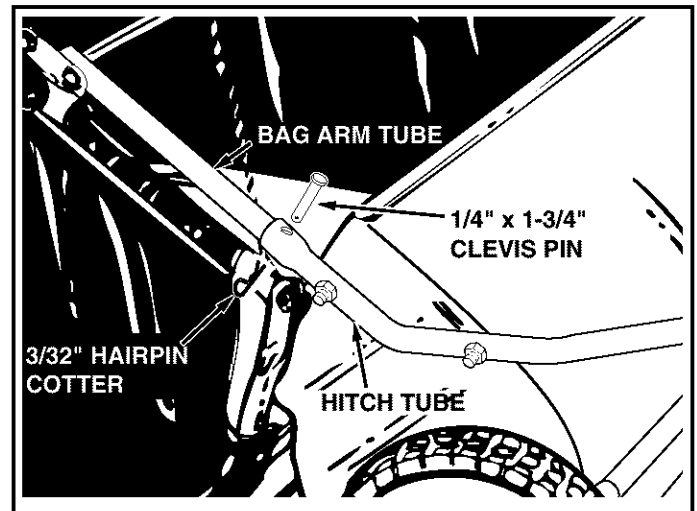

FIGURE 20
- To assemble the hopper bag to the sweeper, slide the ends of the bag arm tubes into the ends of the hitch tubes and secure with two 1/4" x 1-3/4" clevis pins and 3/32" hairpin cotters. See figure 20.